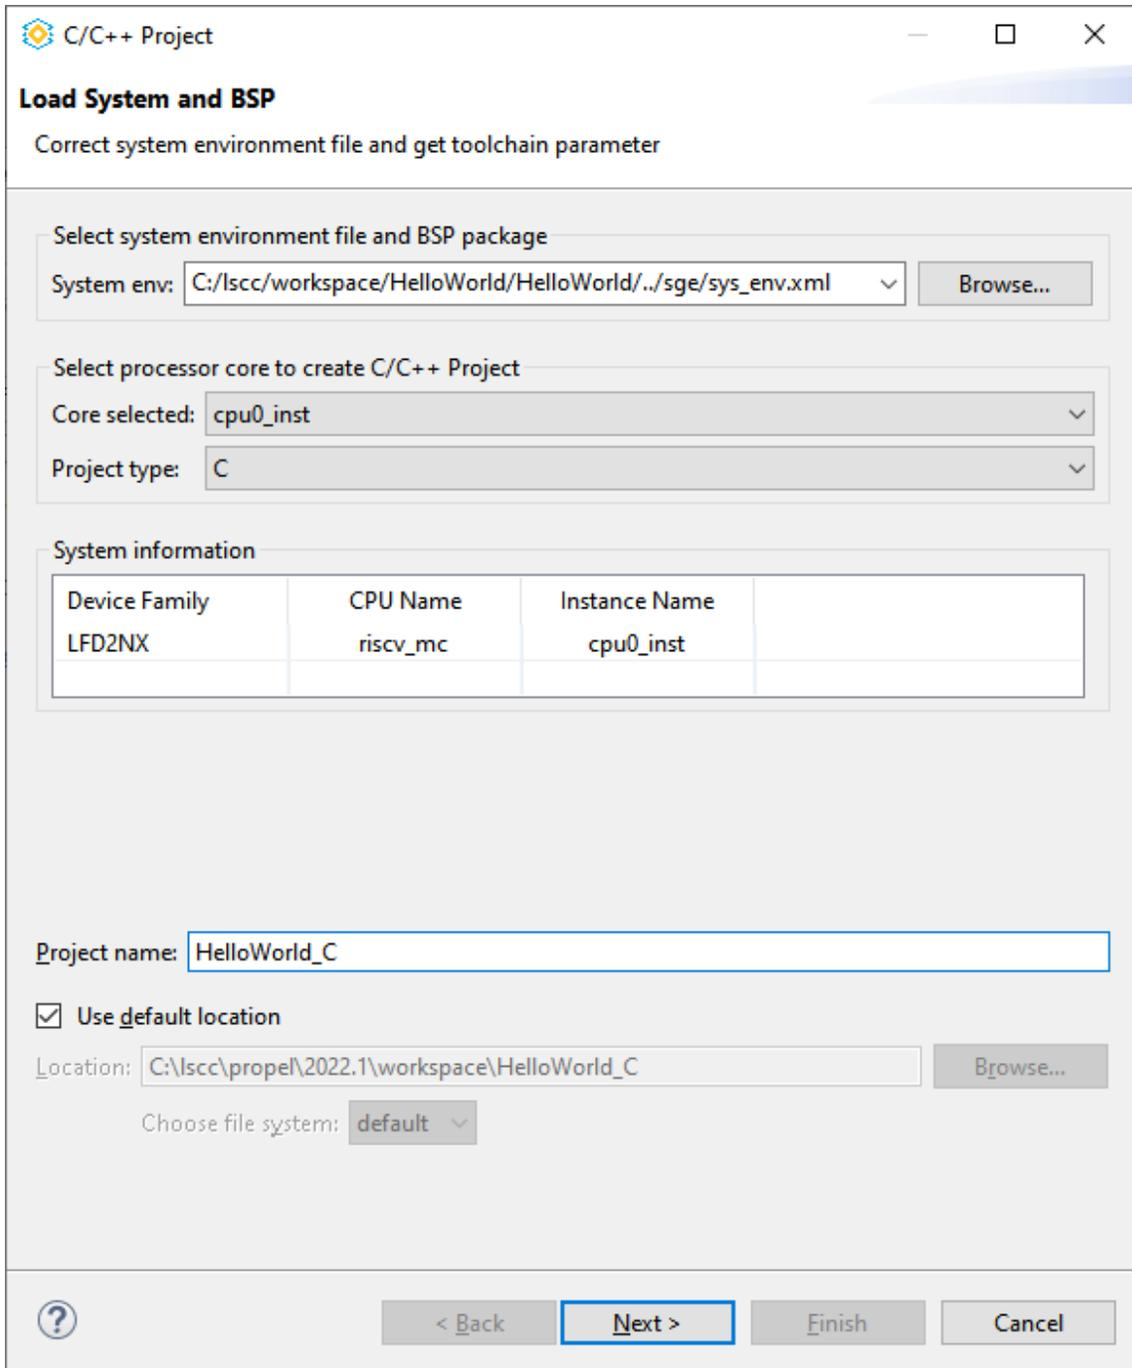

Figure 2.82. Propel SDK GUI and C/C++ Project Wizard
2. Click **Launch**. Propel SDK GUI opens and the C Project wizard (Figure 2.82) pops up for loading the system and the board support package (BSP) to create a C/C++ project. Enter a project name in the **Project Name** field, such as HelloWorld_C. Click **Next**.